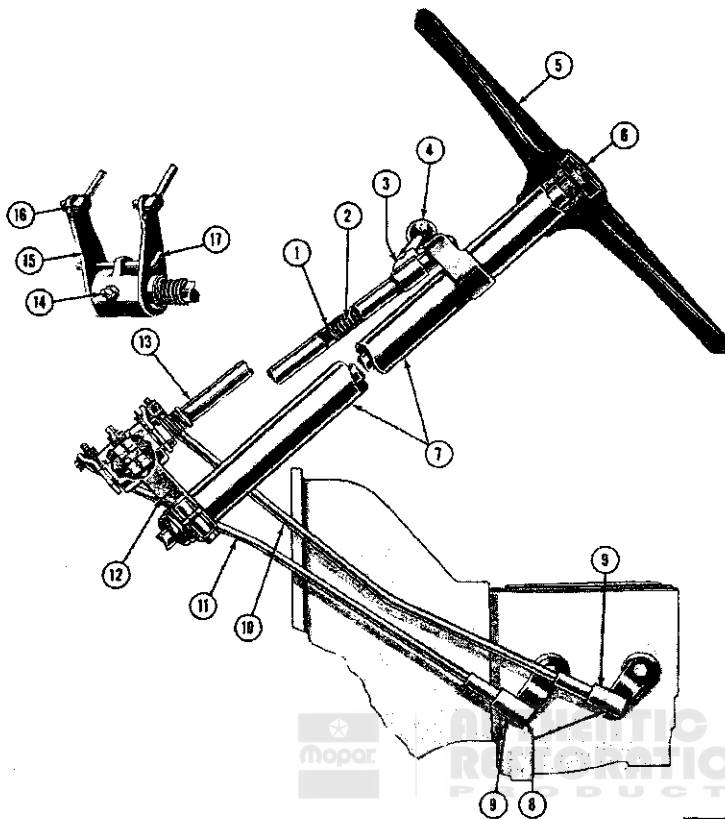

FIG. J-1—TRANSMISSION
If the shift is not smooth and positive, first make sure the gears are in neutral position then remove the shift rods at the transmission by removing clevis pins, Fig. J-1 No. 17, and slip a short piece of snug fitting $\frac{1}{4}$ " [6,35 mm.] aligning rod, through the gearshift levers and housing as shown in insert drawing.
- Refer to Fig. J-1
d. Remove the set screw from the transfer case shift lever pivot pin. Remove the pivot pin, shift levers, and shift lever springs. On models CJ-5A, and CJ-6A remove pivot pin cotter key and the adjusting rod attaching nut to remove shift lever. See Fig. J-1.